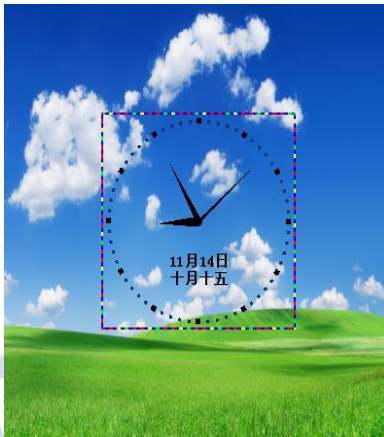

Figure 4-26 Transparent Displaying Effect of the Clock
**Attention:** All display windows on the same program page plays simultaneously. If the display windows overlap with each other, the upper-layer windows will cover the lower-layer windows. For example, if you add a common window and then a clock window of the same size and coordinate, the common window will cover the clock window when they are playing. If you want to display the clock window, you need to click **Pause**, perform the **Move Up** operation to move the clock window to the front side of the common window, and then click **Play**. If the clock is displayed transparently, the clock will overlay the media of the common window when the playing solution is played upon the moving operation. Figure 4-26 shows the displaying effect: